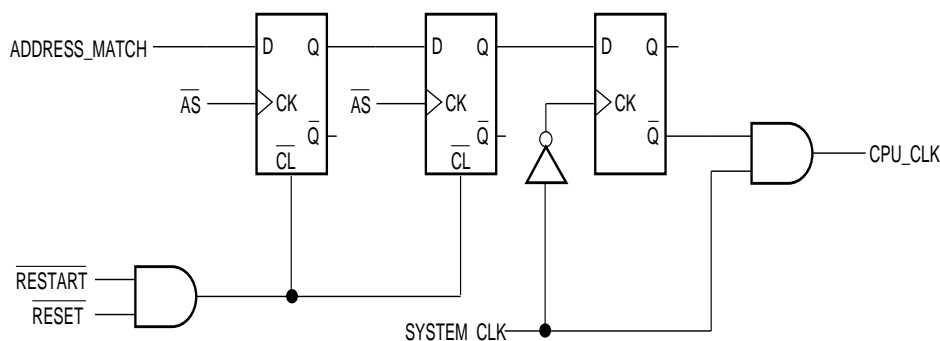
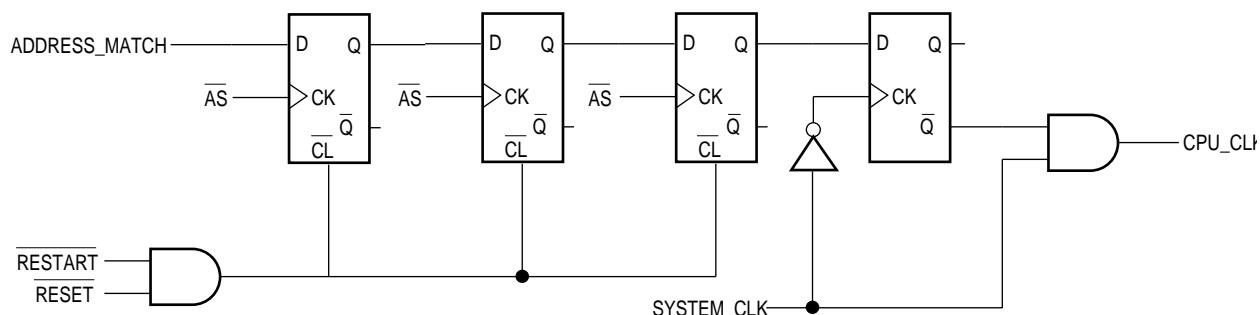

Figure 2. MC68SEC000 Low-Power Circuitry for 16-Bit Data Bus
Figure 3. MC68SEC000 Low-Power Circuitry for 8-Bit Data Bus
1. Externally detect a write to the low-power address. You select this address which can be any address in the 16 Mbyte addressing range of the MC68SEC000. A write to the low-power address can be detected by polling A23–A0, R/\overline{W} , and FC2–FC0. When the low-power address is detected, R/\overline{W} is a logic low, and the function codes have a five (101) on their output, the processor is writing to the low-power address in supervisor mode and user-designed circuitry should assert the ADDRESS_MATCH signal shown in Figure 2 and Figure 3.
2. Execute the STOP instruction. The external circuitry shown in Figure 2 and Figure 3 will count the number of bus cycles starting with the write to the low-power address and will stop the processor clock on the first falling edge of the system clock after the bus cycle that reads the immediate data of the STOP instruction. Figure 3 has one more flip-flop than Figure 2 because the MC68SEC000 in
6.0 MC68SEC000 AC ELECTRICAL SPECIFICATIONS — CLOCK TIMING (See Figure 2)